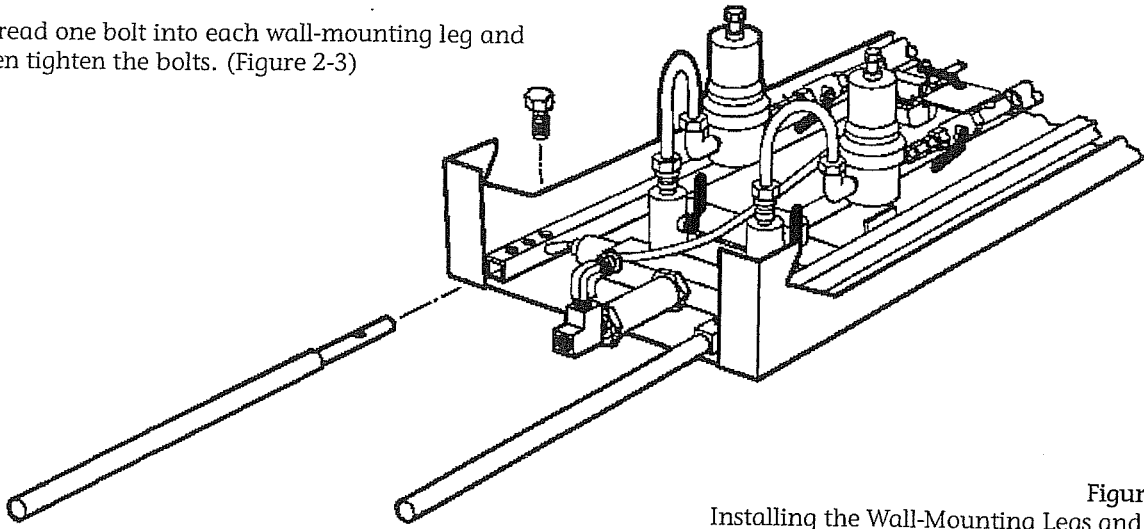

Figure 2-3
- Slide one wall-mounting leg into each frame end at the bottom of the manifold. (Figure 2-3)
- Thread one bolt into each wall-mounting leg and then tighten the bolts. (Figure 2-3)